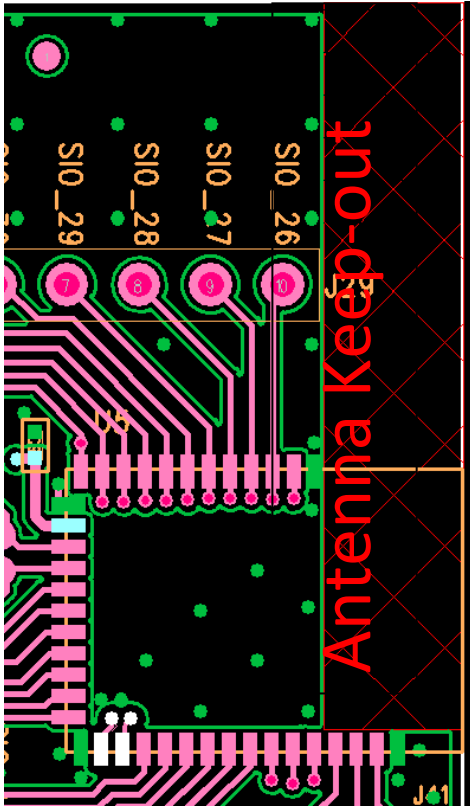

Figure 10: Antenna keep-out area (shown in red), corner of the BL652 development board for BL652-SA module.
- The BL652 development board has the BL652-SA module on the edge of the board (not in the corner). The antenna keep-out area is defined by the BL652 development board which was used for module development and antenna performance evaluation is shown in Figure 10, where the antenna keep-out area is ~4.95mm wide, 25.65 mm long; with PCB dielectric (no copper) height 0.85 mm sitting under the BL652-SA antenna.
- Host PCB land pattern and antenna keep-out for the BL652 applies when the BL652-SA is placed in the corner of the host PCB. When BL652-SA cannot be placed as such, it must be placed on the edge of the host PCB and the antenna keep out must be observed. Figure 10 shows an example.